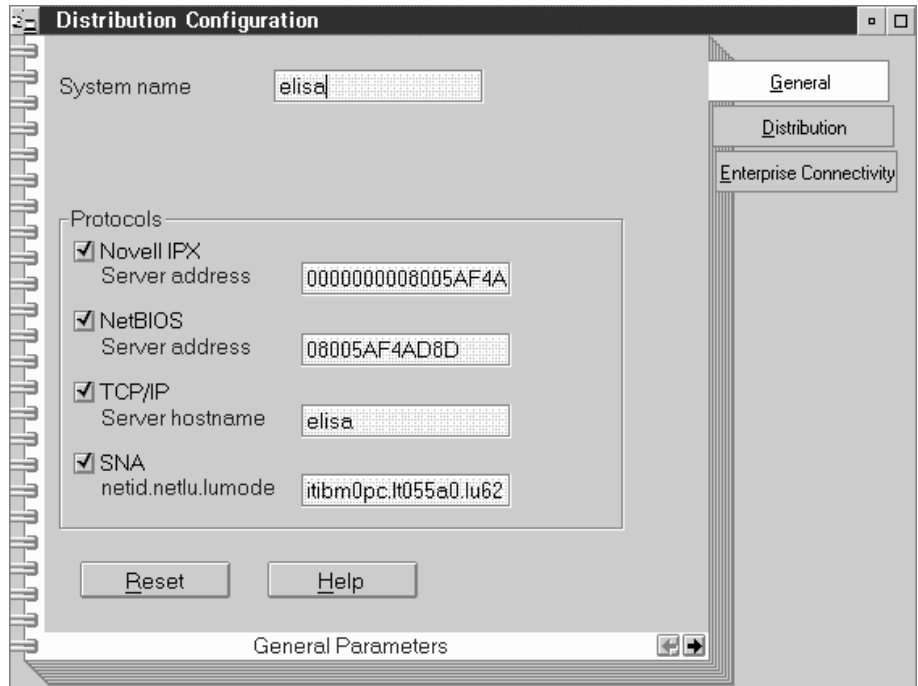

Figure 13. Distribution Configuration Notebook general page
- 7 Installation continues until the Distribution Configuration notebook, shown in Figure 13 on page 57, is displayed.